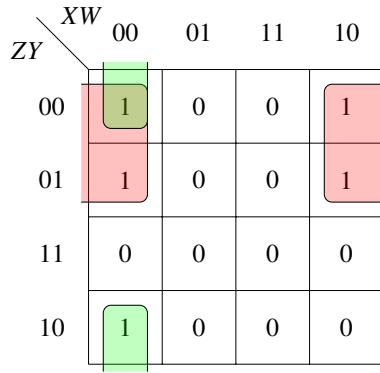

Fig. 4.1: K-map for A
3. K-Map for A : The expression in (4.1) can be minimized using the K-map in Fig. 4.1
In Fig. 4.1, the *implicants* in boxes 0,2,4,6 result in $W'Z'$. The implicants in boxes 0,8 result in $W'X'Y'$. Thus, after minimization using Fig. 4.1, (4.1) can be expressed as